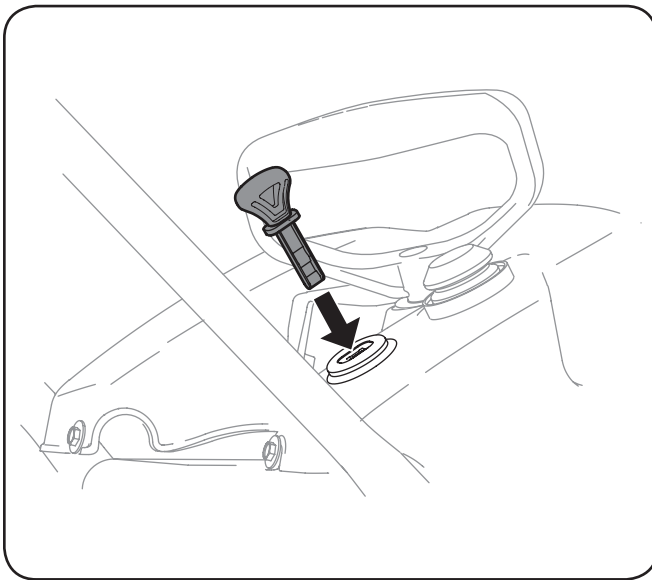

Figure 5-1
2. Insert the ignition key into the slot. See Fig. 5-1.